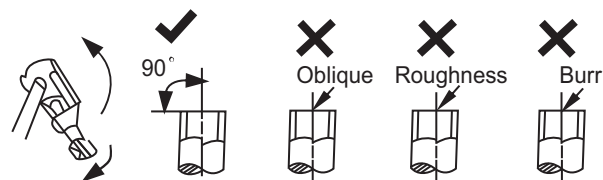

Fig. 33 — Pipe Cutting
- a. Cut the pipe, with a pipe cutter, at 90 degrees (see Fig. 33).